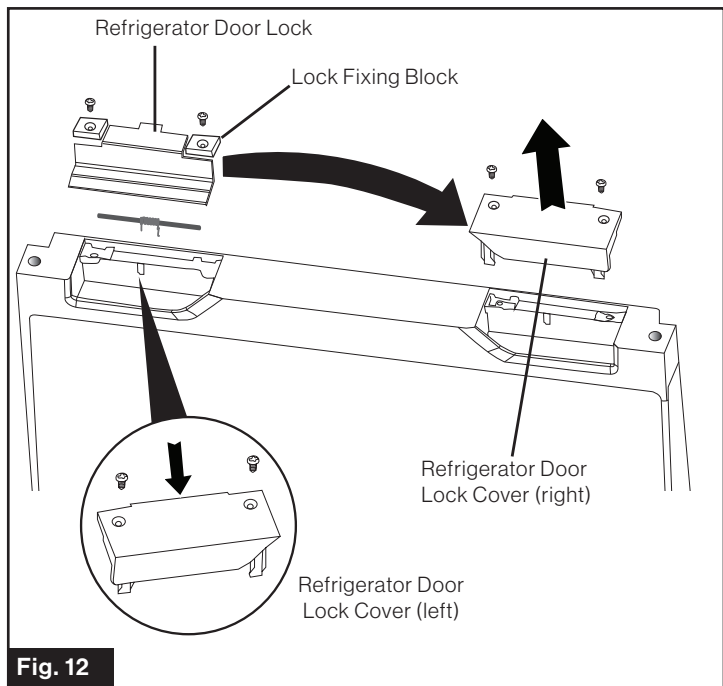

Fig. 12
- Remove the Refrigerator Door Lock Cover (right) and save it for future use. Change Refrigerator Door Lock and Lock Fixing Blocks to the opposite side. Install the left side Refrigerator Door Lock Cover, provided as an accessory with the unit, where the door lock was. (Fig. 12)